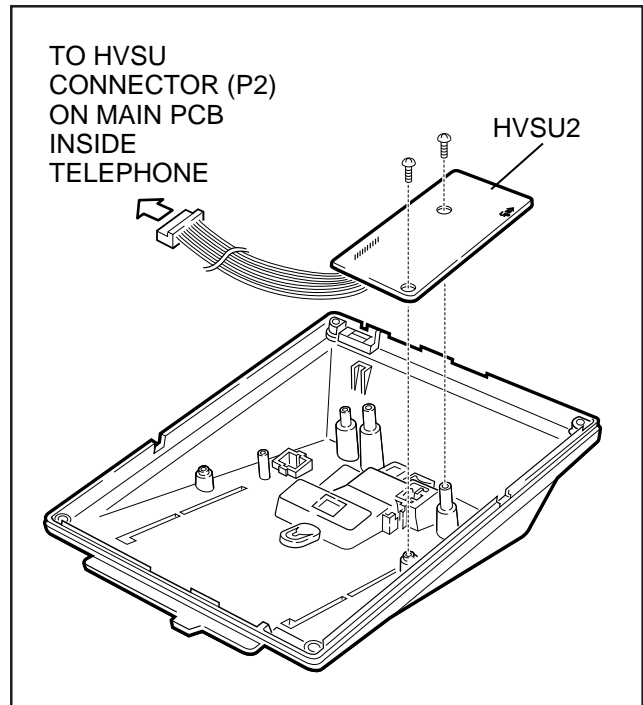

FIGURE 6-12
- 2) Position the HVSU2 on the standoffs inside the base, and secure with the two provided screws (Figure 6-12).